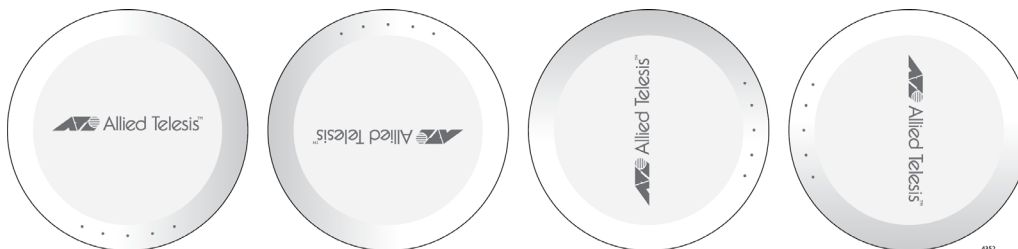

Figure 19. Correct Orientations on a Wall
- ❑ The access point must be mounted on the wall in the orientations shown in Figure 19. In other orientations, the access point cannot have a proper air flow.